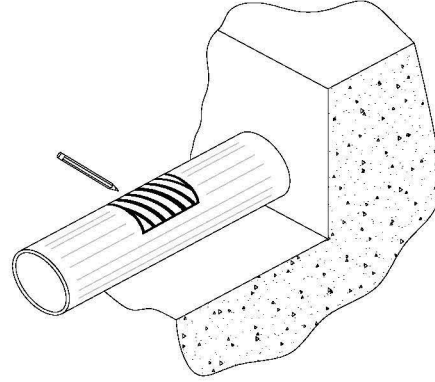

Figure A6 - Marking of pipe
5. Mark the area to be scraped Figure A6